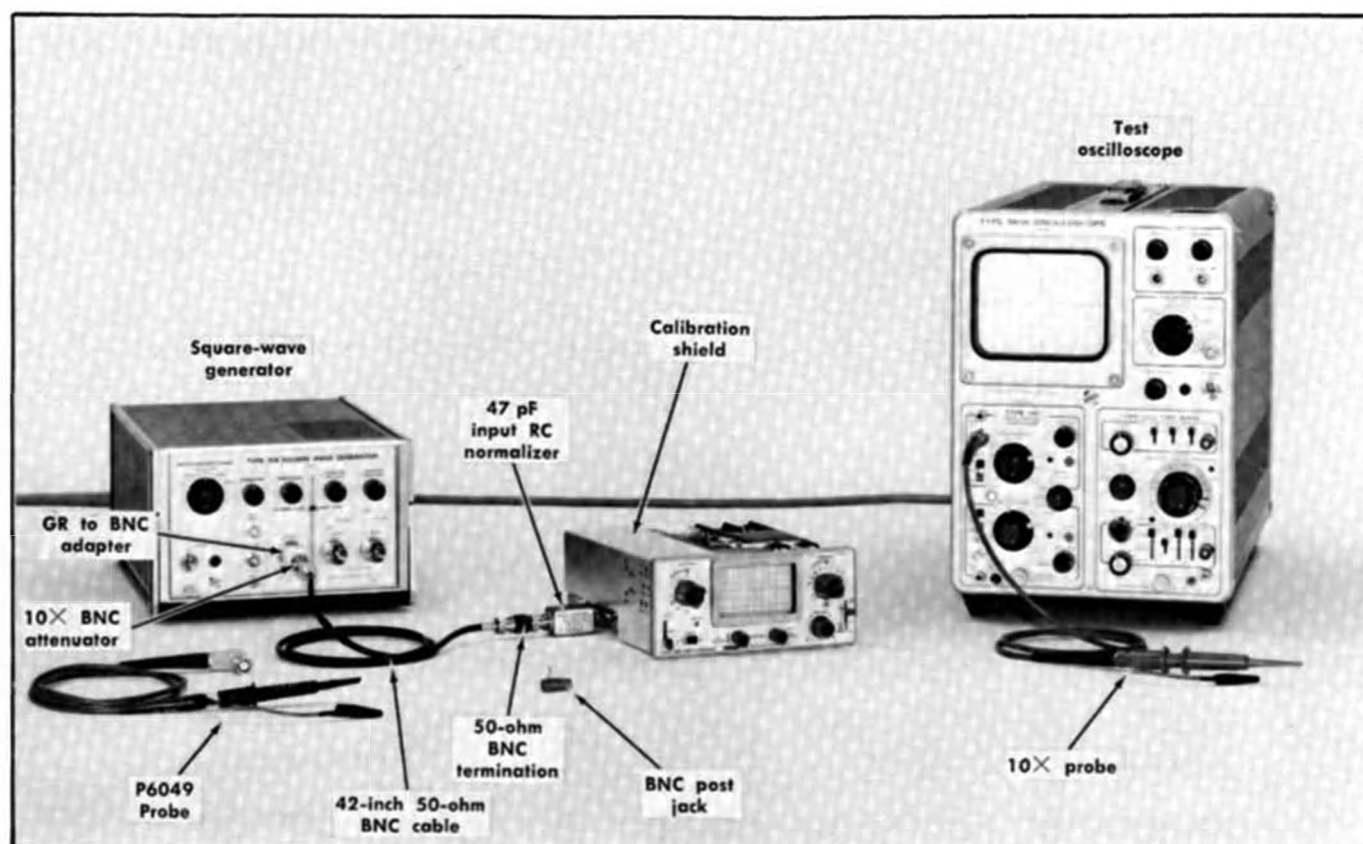

Fig. 6-8. Initial test equipment setup for steps 23 through 27.
- Test equipment setup is shown in Fig. 6-8.